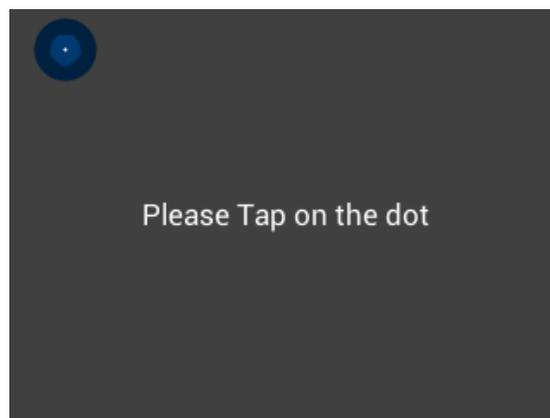

Figure 42 Touchscreen calibration screen
4. Turn the key switch to LOCAL position, the display will now show the calibration Screen (Figure 42):